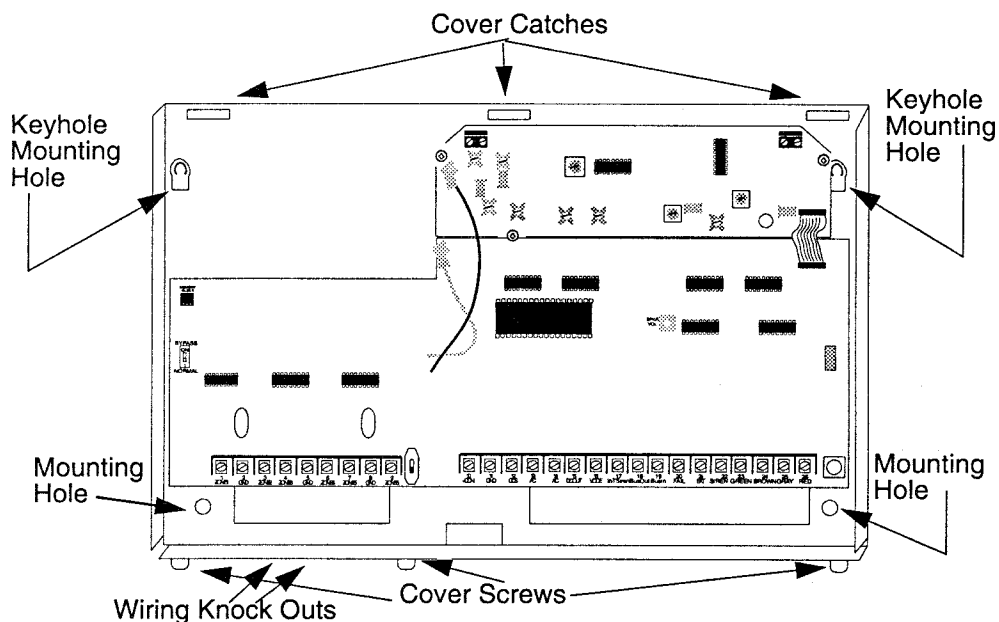

Figure 3.3. Mounting the CPU
- A. Loosen the three cover screws on the CPU chassis bottom (see Figure 3.3).